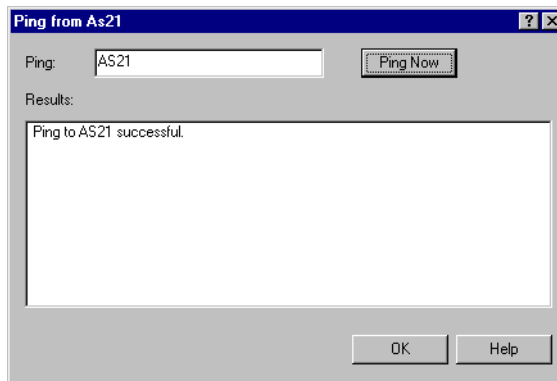

Figure 477. Ping from dialog
8. As shown in Figure 477, type the IP address or host name of the interface of the host to which you want to test connectivity, and click **Ping Now**. The results of the ping are displayed. Figure 477 shows the Ping from dialog.